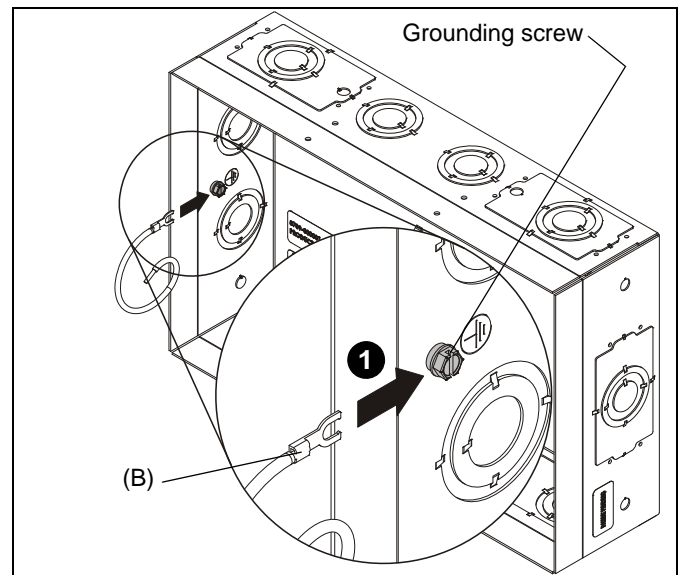

Figure 1
1. Attach the grounding pigtail wire (B) to the green grounding screw already in place within the PAC525 or PAC526 in-wall boxes. (See Figure 1)